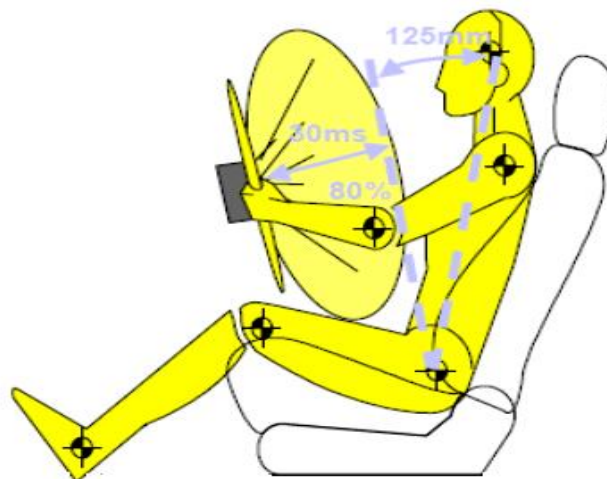

Figure 1: Airbag deployment figure
- b) List **FIVE (5)** Do's and Don'ts while working with airbag system. (5 marks)
- c) From the **Figure 1** below, the driver airbag with 60 liter volume takes 30ms to reach 80% of inflation, the airbag must be inflated 80% when the driver reaches 125mm forward displacement. 125 mm forward displacement is reached after 50ms. Calculate the Optimum Firing Time for this system. (6 marks)